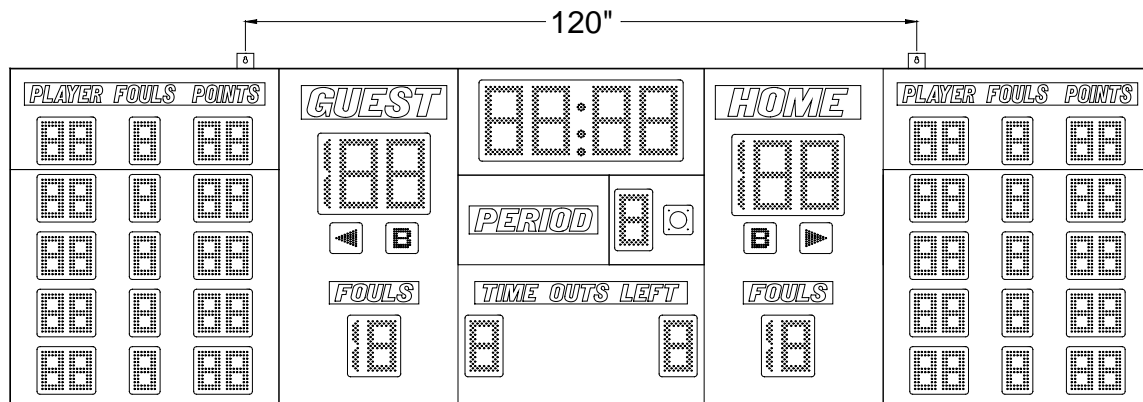

Figure 2 Model 2555 Mounting Points
3. Insert lag bolts or other suitable fasteners through the hanger brackets and fasten the scoreboard to the wall. Figure 2 shows the mounting point locations for model 2555.